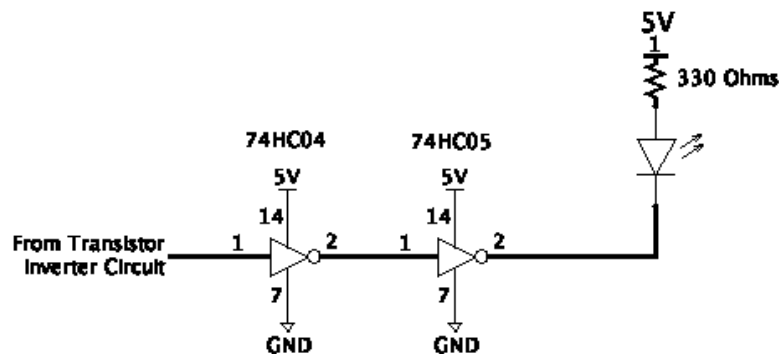
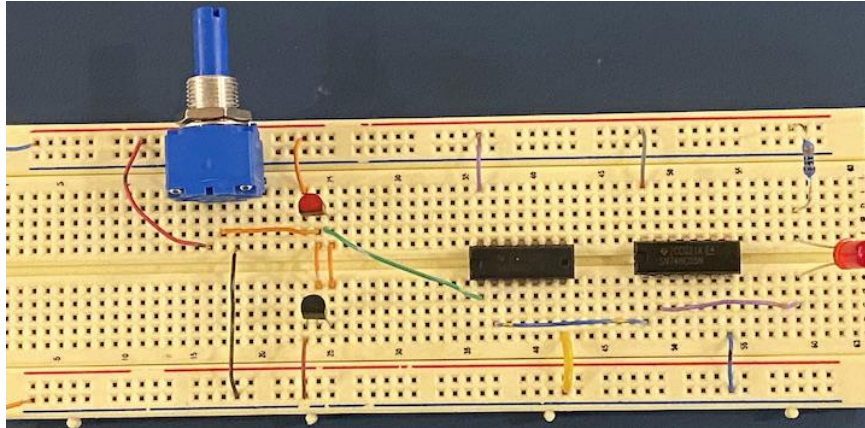

Figure 5 – Two Inverters and an LED
Figure 7 – Complete 3 inverter Circuit
1. Keeping the transistor inverter circuit on the left of the breadboard, build the circuit shown in the schematic diagram of Figure 5 on the right side of the breadboard. Refer to the data sheet of the 74HC04 and 74HC05 to understand the function of each pin on each chip
2. Create a 3 inverter chain by connecting the output of the discrete transistor inverter circuit to the input of the integrated inverter circuit shown in Figure 5. The complete circuit is shown in Figure 7.